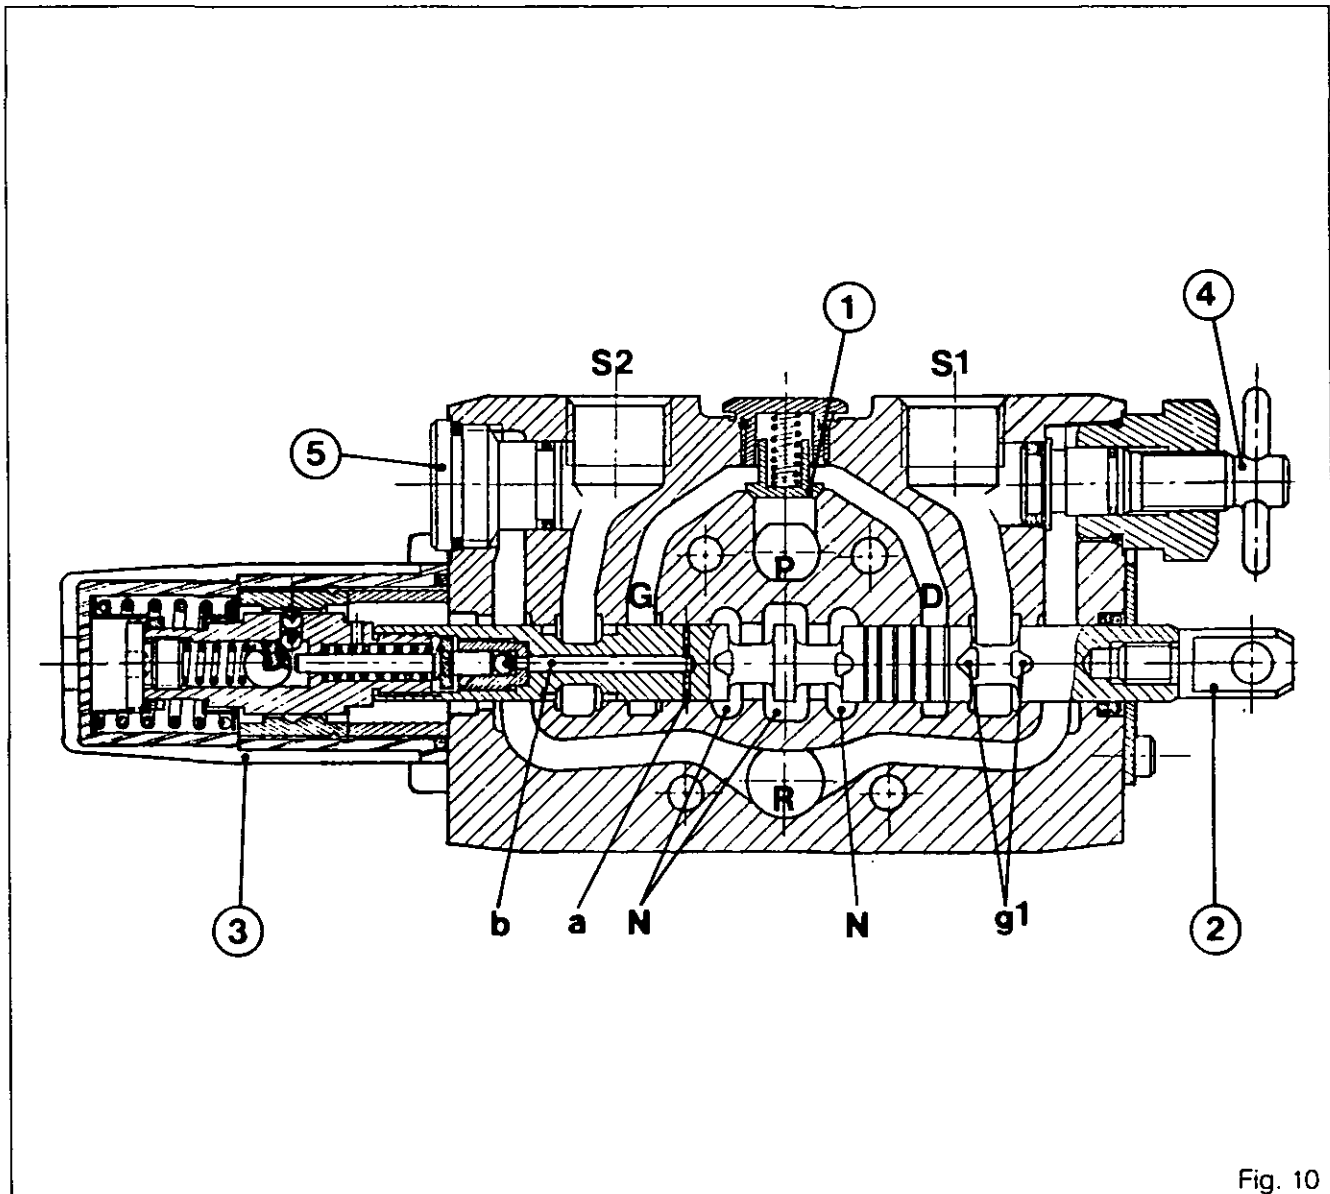

Fig. 10
**Intake - discharge phase (Fig. 10)**